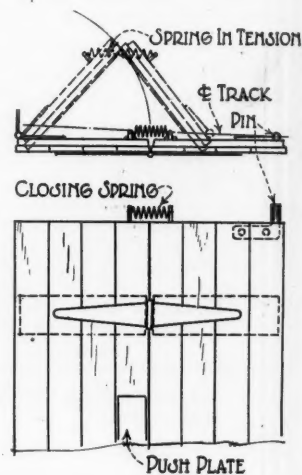

FIG. 4
**ANSWER:** Figure 4 is a sketch submitted by Harold Oakley, Rhinebeck, N. Y. In his sketch Mr. Oakley advises spring hinges on the jamb with butts on the break. The editor has taken the liberty to suggest another scheme which worked out very well several years ago. A track of purple heart was built over the head of the door in which ran a steel pin that was screwed to the top of the door. Then a spring was placed over the top of the door so that on moving the door it would come under tension, but when the door was closed or opened back it was under less tension. A push plate was used instead of a latch. The door could never stand partly open unless blocked. It was either open or closed.